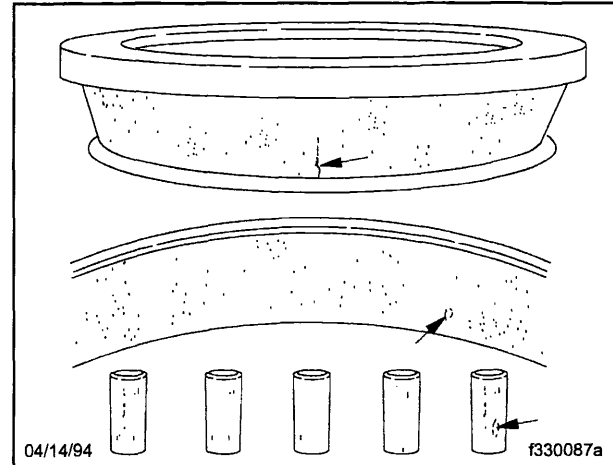

Fig. 8, Indentations, Cracks, or Breaks in Bearing Surfaces
- Visible step wear, particularly at the small end of the roller track. Deep indentations, cracks, or breaks in the cone surfaces (see Fig. 8);